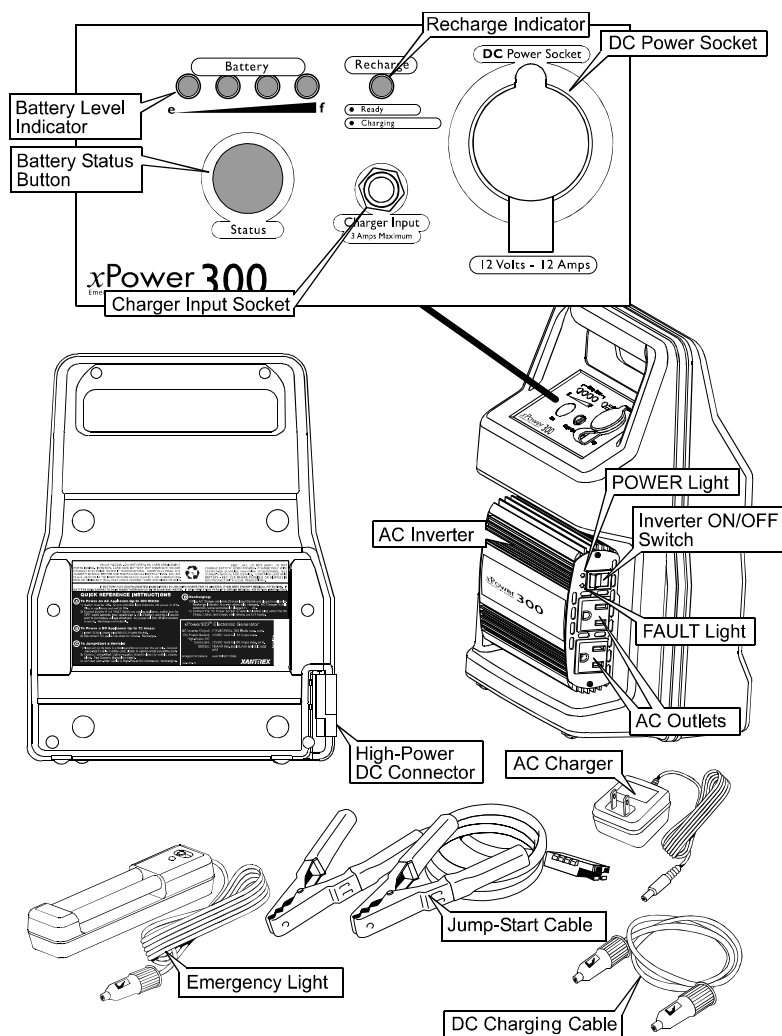

Figure 1 - Key Features
Refer to Figure 1 in Section 2 for location of the items identified below.
1. Turn on the AC inverter switch located on the inverter’s right side. The green POWER light that illuminates adjacent to the switch indicates AC power is now on and available at the two inverter AC outlets. See Figure 1 in Section 2.